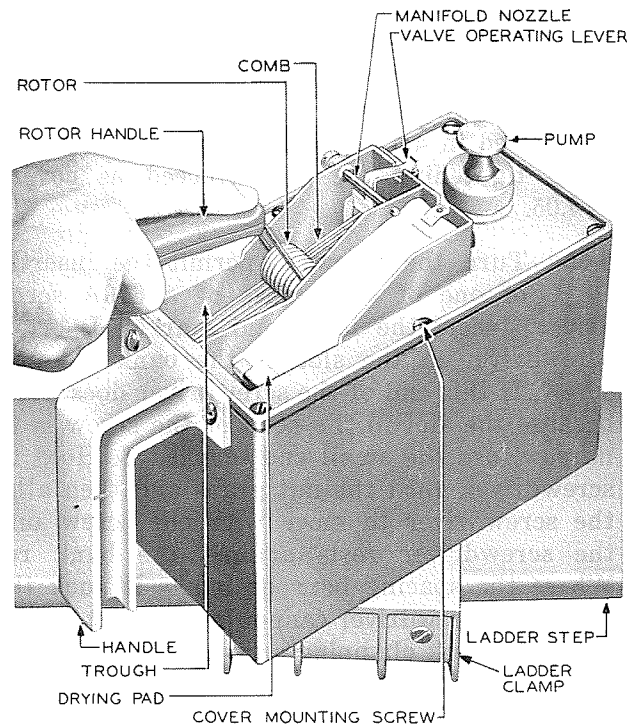

Fig. 6 – Method of Flushing KS-16062 L2 Rotor Using KS-16297 L1 Flushing Unit
The KS-16297 L1 flushing unit, shown in Fig. 6, is provided to flush and apply KS-16436 washing fluid to the rotor discs of the bank cleaner.
(4) Adjacent to the flushing trough is the drying pad for removing excess liquid from the rotor discs after flushing. This pad should be replaced after approximately 25,000 banks have been cleaned. Replacement is recommended after this use because of wear and clogging of the pad, which reduces its absorbent properties.
(5) The fresh liquid is put under pressure by the pump mounted on the cover of the unit and extending into the can containing the fluid.
(6) The flushing unit is filled with fresh liquid by removing the pump and pouring the liquid from the KS-16366 filler can. Used liquid is drained from the tank by removing the drain plug in the opposite end of the tank from the handle.
(7) The flushing unit is mounted on a U-shaped spring clamp to hold the unit to the step of a ladder as shown in Fig. 6. A swivel joint is provided between the unit and the clamp so that the unit may be positioned on the ladder step as desired. The bottom of the clamp serves as a base when the flushing unit is placed on a flat surface. The unit is also equipped with a handle at one end.
(1) Position the rotor in the trough of the flushing unit so that six wires of the comb are sandwiched between the discs of the rotor and the remaining wires are against the outer surfaces of the end discs as shown in Fig. 6. Roll the rotor to the
(1) Position the rotor in the trough of the flushing unit so that six wires of the comb are sandwiched between the discs of the rotor, and the remaining wires are against the outer surfaces of the end discs as shown in Fig. 6. Roll the rotor to the upper end of the trough against the valve operating plate, thus opening the valve, and flush the rotor with KS-16436 washing fluid.
(2) While maintaining pressure against the trough, roll the rotor back and forth, making sure that it is saturated with liquid at the upper end of every third or fourth stroke. These operations remove the sludge and debris from the discs. When the liquid in the trough appears clear, roll the rotor back and forth three or four times without opening the valve. This removes some of the excess liquid from the rotor. Remove the rotor from the trough and roll it three or four times over the adjacent drying pad to further remove excess liquid. Press the rotor against the pad during this operation.